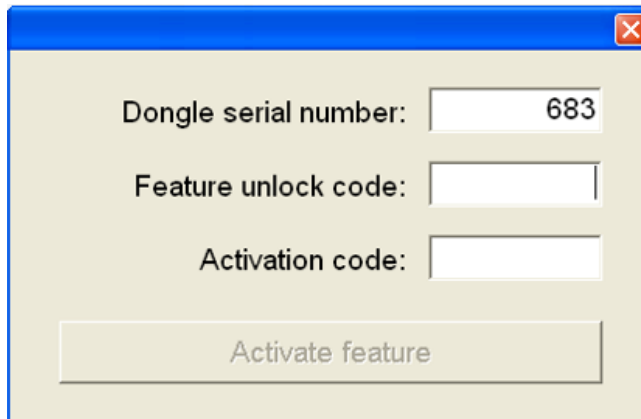

Figure 32: Add Feature window
1. Open the AddFeature.exe program. The Add Feature window appears (Figure 32).